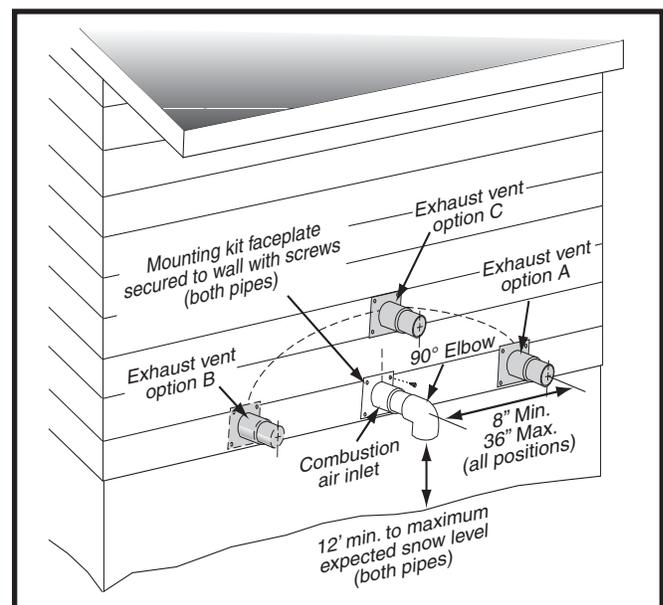
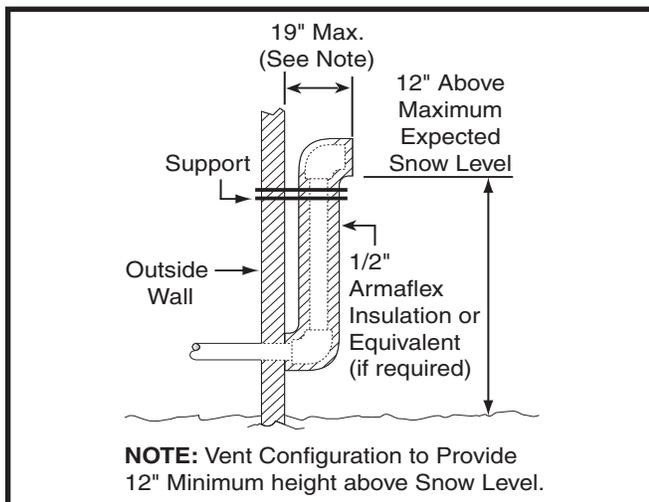

Figure 6. Inlet and Exhaust Pipe Clearances
Figure 8. Alternate Horizontal Vent Installation
- If a Direct Vent (2-pipe) system is used, the combustion air intake and the vent exhaust must be located in the same atmospheric pressure zone. This means both pipes must exit the building through the same portion of exterior wall or roof as shown in Figures 6 - 9 (pages 12 - 13) and Figure 37 (page 46).
Vent and combustion air intake terminations shall be installed as depicted in Figures 6 & 7 (page 13) and in accordance with these instructions:
- When the vent pipe must exit an exterior wall close to the grade or expected snow level where it is not possible to obtain clearances shown in Figure 6, a riser may be provided as shown in Figure 8. Insulation is required to prevent freezing of this section of pipe. See Table 3 for vent freezing protection.